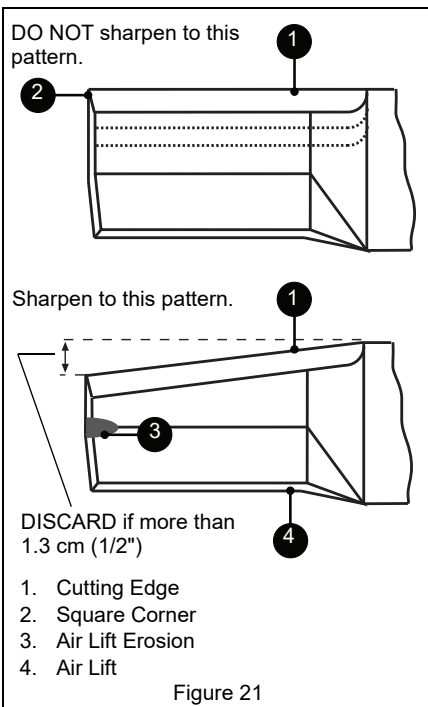

Figure 21
2. File or grind an equal amount of material from each cutting edge of the blade until sharp. DO NOT change angle of cutting edge or round the corner of the blade. See Figure 21.